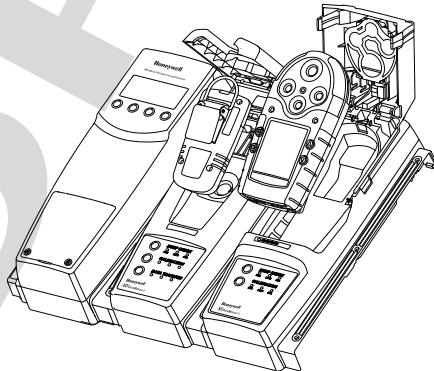

Figure 1. MicroDock II Base Station and Docking Modules
- Figure 1 MicroDock II Base Station and Docking Modules